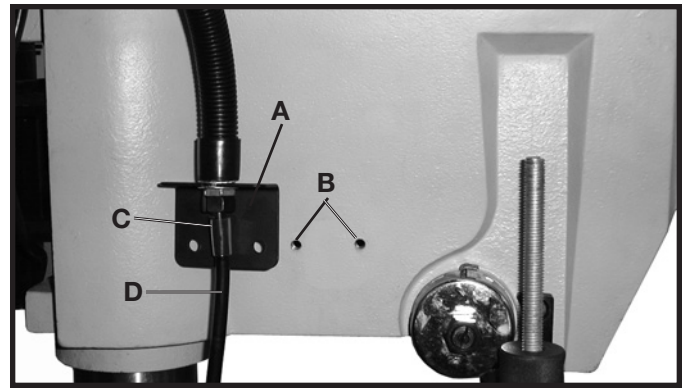

Fig. 18A
20. Align the two holes in the lamp bracket (A) Fig. 18A, with the two holes (B) on the side of the drill press head.
21. Place the cord bushing (C) Fig. 18A, around the top of the lamp cord (D).